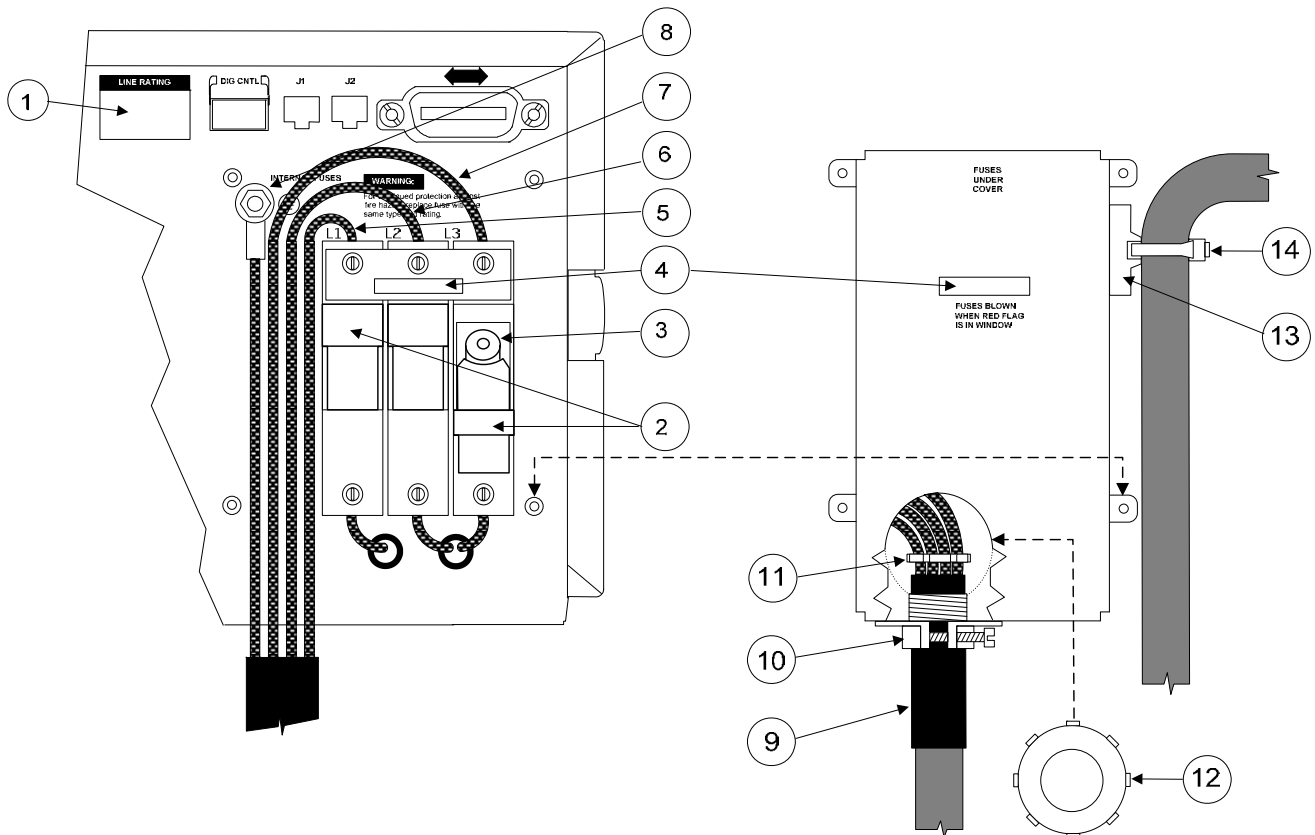

Figure 2-6. Connecting the Series 669xA Power Cord
See Figure 2-6 and proceed as follows:
1. Check the line fuses (3), Figure 2-6) as follows:
- Examine the **LINE RATING** label (1) on the rear panel to make sure the correct voltage and fuses are indicated.
- Pull back on the lever (2) located on each fuseholder and verify that all fuses (3) are as specified on the label.
- Check to make sure that the red flag does not appear in the fuse holder window (4) after you close the fuseholder.